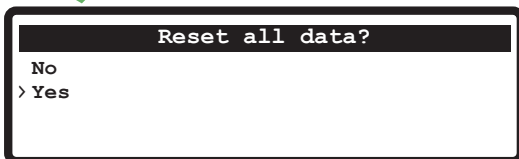

Fig. 81
- It is possible to delete all job's data (Fig. 81).
- The screen of Fig. 81 will be displayed: select **Yes** and press **OK**.